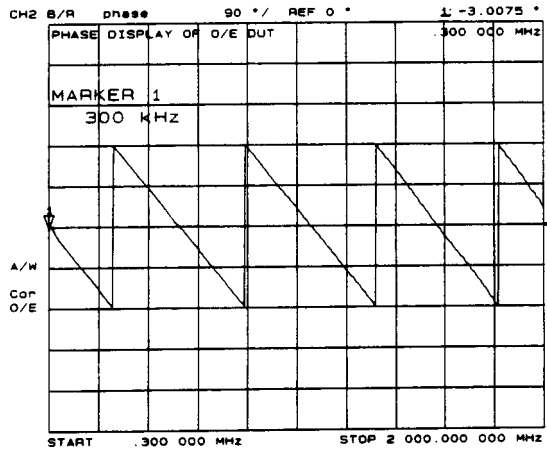

Figure 3-6. Phase Response of O/E (photo diode) Device Under Test
- 7 Insert the O/E device under test into the system in place of the receiver. **Figure 3-6** shows the phase response of the diode receiver.